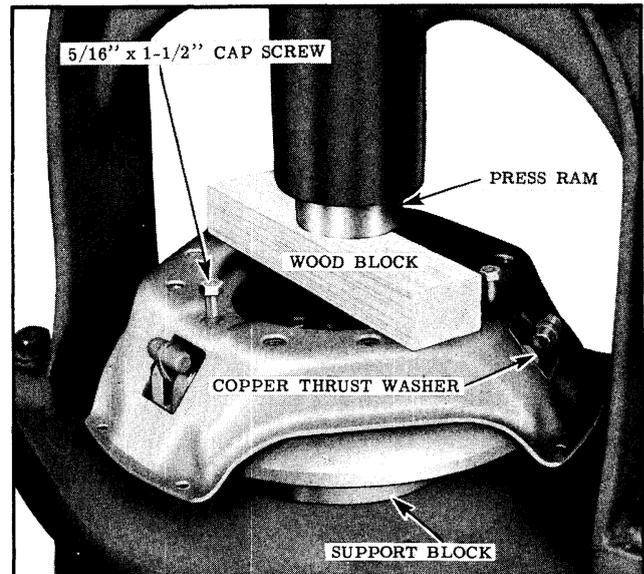

Fig. 10-7 Compressing Pressure Plate
1. Mount the yoke on each clutch release lever, and all levers to the pressure plate using new pins to replace those hack-sawed off in the disassembly operation. New copper thrust washers should be installed on lugs at time of lever replacement. Be sure that pivot pins and driving shims are properly installed as shown in Fig. 10-7. The service replacement pins are like original pins except that they are drilled for cotter pins, eliminating the need for upsetting. A short length of pin cut to the width of the release lever will be used to hold the needle bearings in place while the new pin is installed.